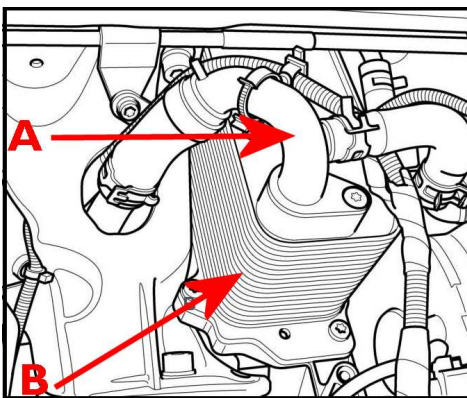

Figure 4
- Oil Cooler Elbow (Figure 4 Point A)
- Oil Cooler pack (Figure 4 Point B)